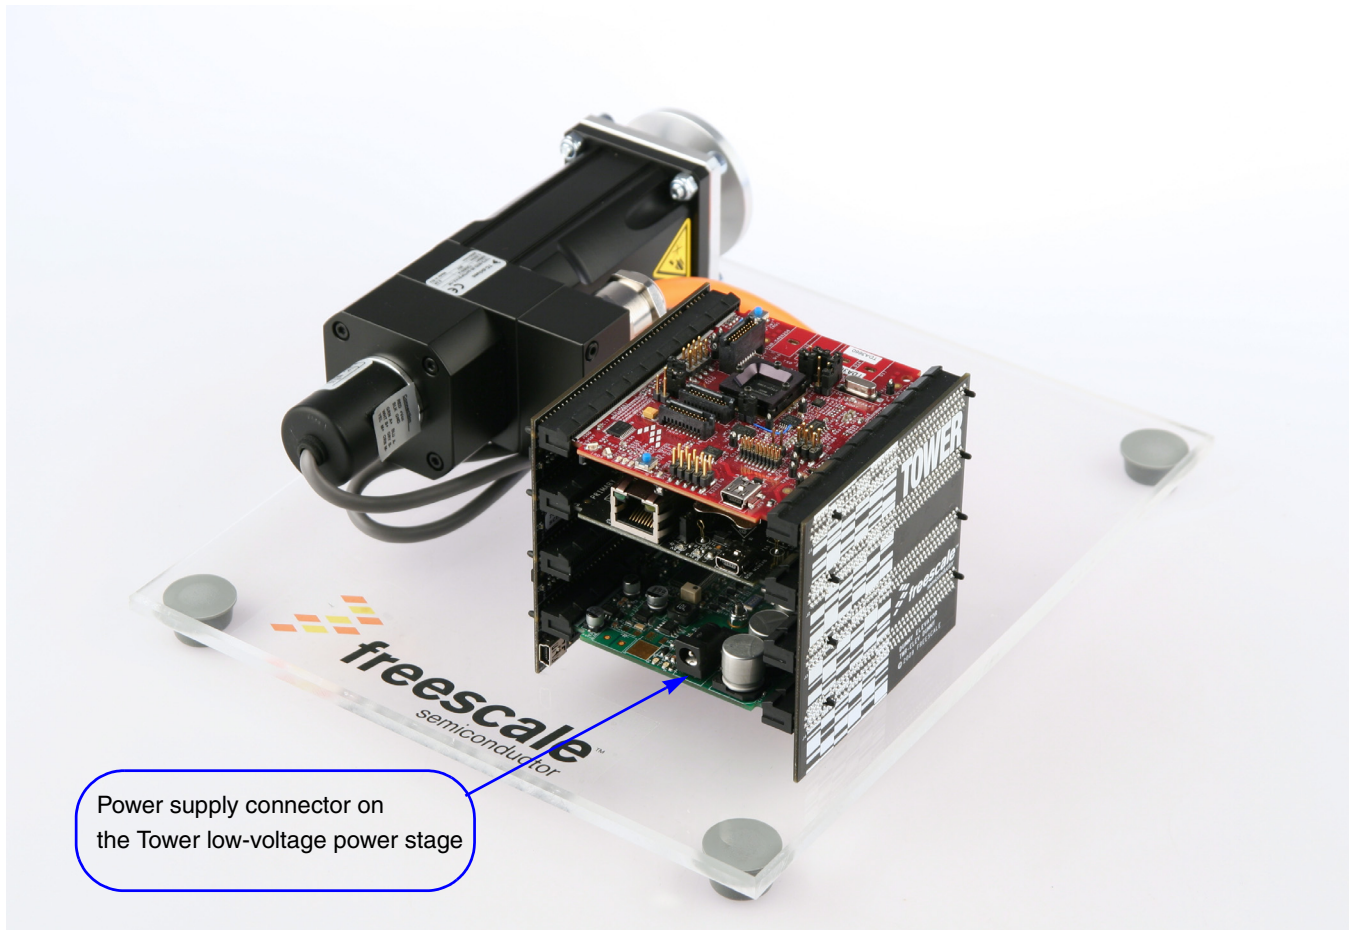

Figure 2. Power supply connector
2. Connect the power supply to an electrical outlet and the low-voltage jack to the supply connector on the low-voltage power stage on the Tower system. The position of the power supply connector is shown in Figure 2.